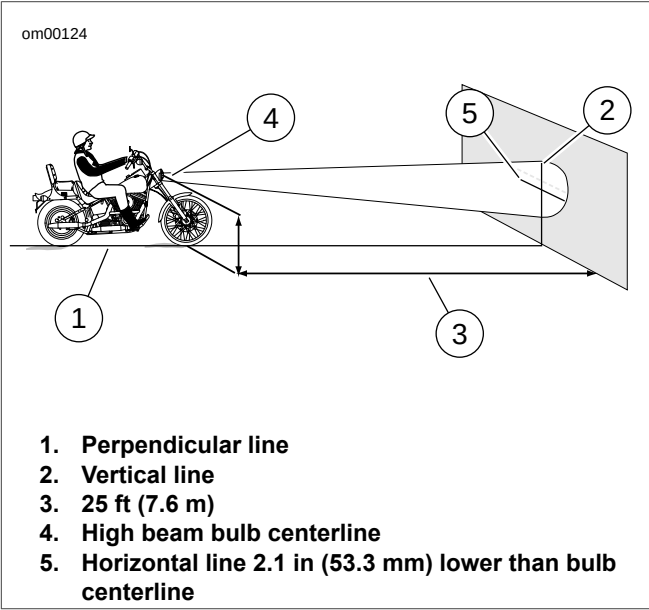

Figure 1-55. Headlamp Alignment
4. See Figure 1-55. Park the motorcycle in a line (1) perpendicular to the wall.
6. Draw a vertical line (2) on the wall.
7. With the motorcycle loaded, point the front wheel straight forward at wall. Measure the distance (4) from the floor to the center of the high beam bulb.
8. Draw a horizontal line (5) through the vertical line on the wall. Place line 2.1 in (53.3 mm) lower than the measured bulb centerline.
See Figure 1-55. The headlamp is aligned when the light beam hot spot is located over the intersection of the lines.